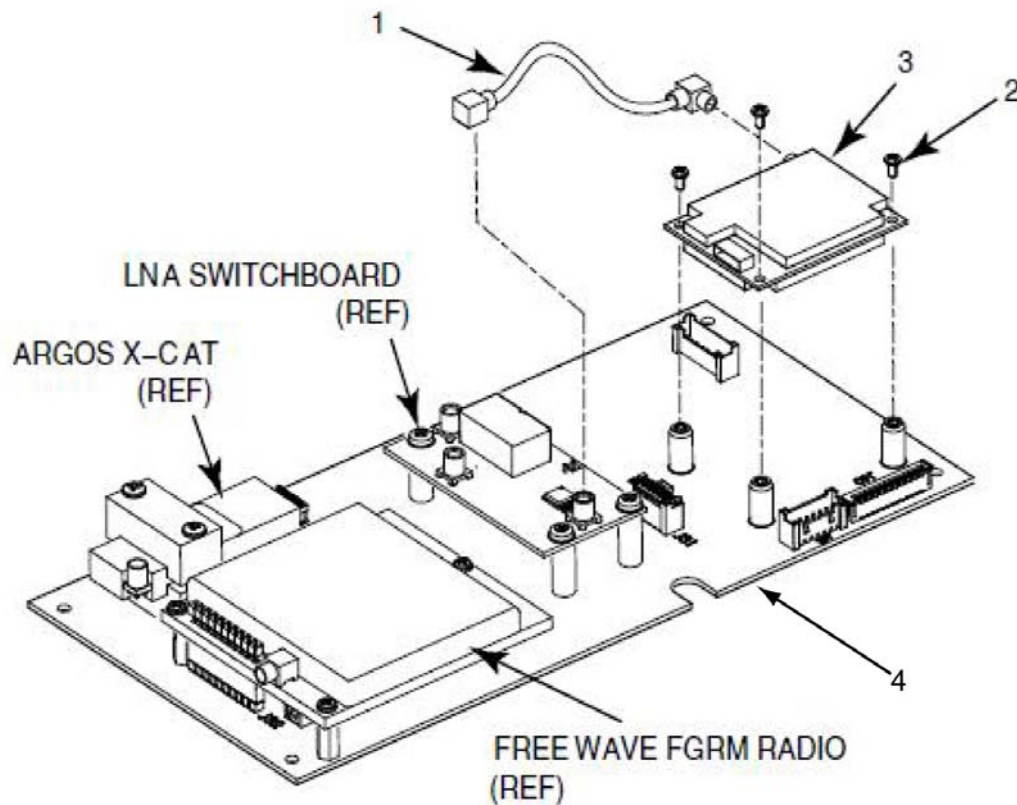

Figure 2-32 GPS receiver.
1. Remove the screws (Figure 2-32, Item 2) that secure the GPS receiver (Figure 2-32, Item 3) to the glider communications board assembly (Figure 2-32, Item 4).
2. Disconnect the GPS to LNA coax cable (Figure 2-32, Item 1) from the GPS receiver (Figure 2-32, Item 3).
3. The GPS receiver (Figure 2-32, Item 3) can now be removed from the glider communications board assembly.
1. Connect the GPS to LNA coax cable (Figure 2-32, Item 1) to the GPS receiver (Figure 2-32, Item 3).
2. Install the screws (Figure 2-32, Item 2) that secure the GPS receiver (Figure 2-32, Item 3) to the glider communications board assembly (Figure 2-32, Item 4).